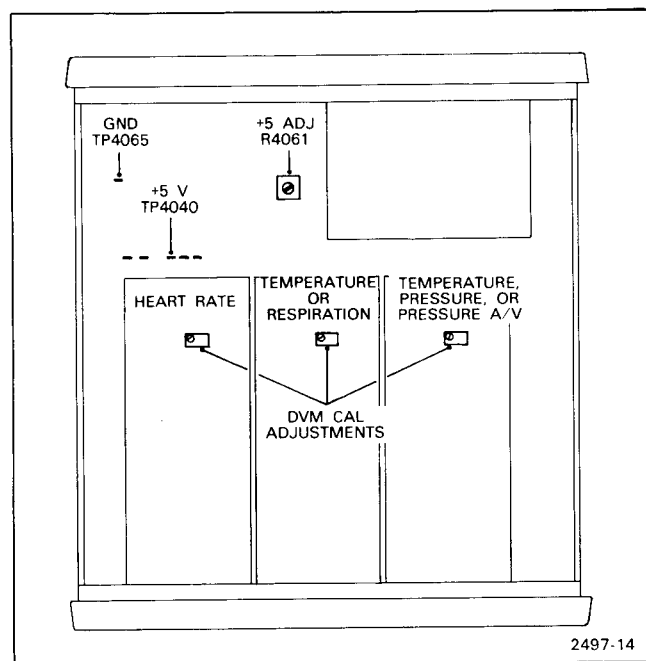

Figure 5-1. Test-point and adjustment locations.
- Connect test-DVM ground (-) lead to TP4065 (GND) and positive (+) lead to TP4040 (+5). See Figure 5-1 for test-point locations.
- ADJUST**—R4061 (+5 V Adj Fig. 5-1) so that test DVM reads +5 volts within 10 mV.
d. **ADJUST**—Temperature DVM Cal (Fig. 5-1) so that 401 digital display reads 113.0 +/-0.1.
c. **ADJUST**—Heart Rate DVM Cal (Fig. 5-1) so that 401 **HEART RATE** display reads 240 +/-1.
e. **ADJUST**—Respiration DVM Cal (Fig. 5-1) so that 401 RESPIRATION display reads same as 401 HEART RATE display within 1.
f. **ADJUST**—Pressure DVM Cal (Fig. 5-1) so that 401 PRESSURE display reads 250 \pm 1.